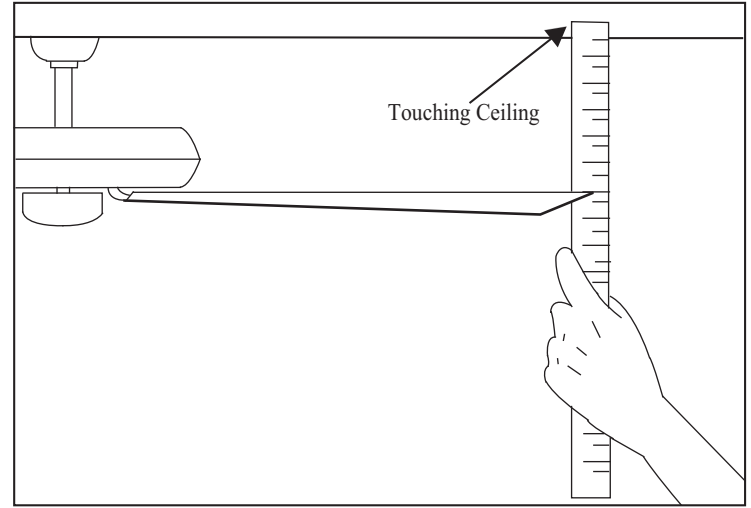

Figure 11
2. Most fan wobble problems are caused when blade levels are unequal. Check this level by selecting a point on the ceiling above the tip of one of the blades. Measure from a point on the center of each blade to the point on the ceiling. Measure this distance as shown in Figure 11. Rotate the fan until the next blade is positioned for measurement. Repeat for each blade. Measurements deviation should be within  $1/8$ ". Run the fan for 10 Minutes.